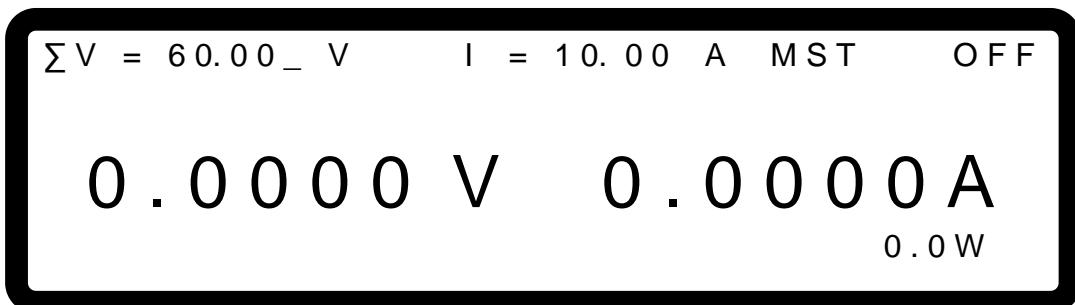

Figure 3-45
3. Press “” to confirm and the menu will automatically switch to the series/parallel MASTER page as shown in Figure 3-45.